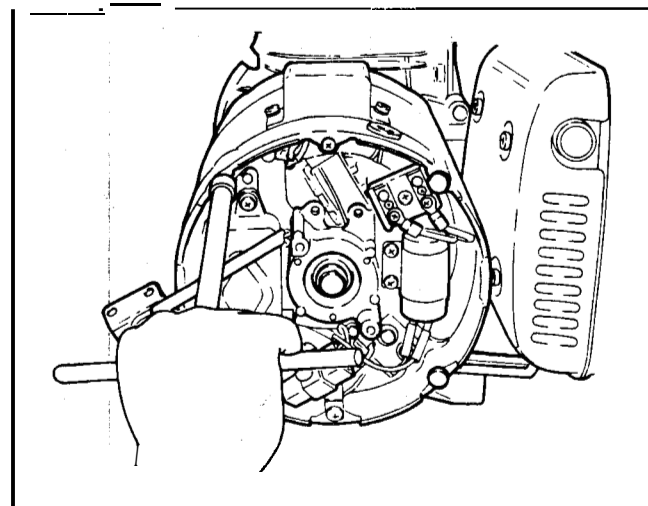

Figure 61
14. Remove the four generator through bolts. See Figure 61.